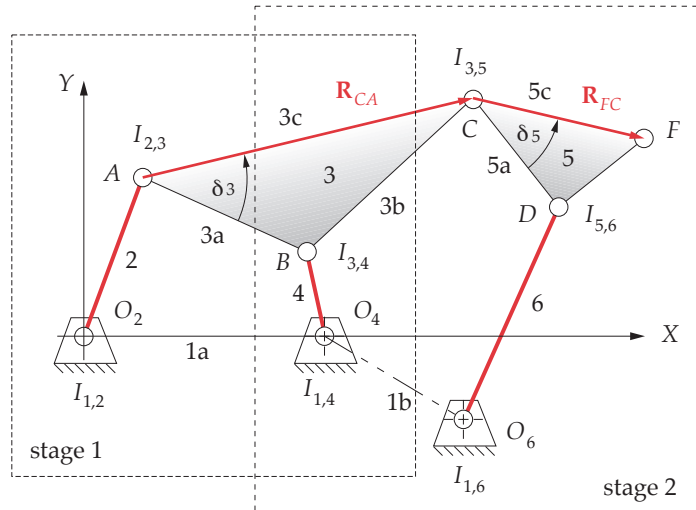

FIGURE A-13
The SIXBAR program is generally similar to the FOURBAR program. It will analyze the **Watt's II** and the **Stephenson's III** linkage isomers as defined in Figure 2-14 (p. 48). These are two of the five distinct sixbar isomers. The **Watt's II** mechanism is shown in Figure A-12 with the program's input parameters defined. The **Stephenson's III** mechanism is shown in Figure A-13 (p. 780) with its input parameters defined. Note that the program divides the sixbar into two stages of fourbar linkages. Stage 1 is the left half of the mechanism as shown in Figures A-12 and A-13. Stage 2 is the right half. The  $X$  axis of the global coordinate system is defined by instant centers  $I_{1,2}$  and  $I_{1,4}$  with its origin at  $I_{1,2}$ . The third fixed pivot  $I_{1,6}$  can be anywhere in the plane. Its coordinates must be supplied as input.
**STEPHENSON'S III LINKAGE** The stage 1 data for the Stephenson's linkage is similar to that of the Watt's linkage. The first stage's crank, first coupler, first rocker, and ground link segment from instant centers  $I_{1,2}$  to  $I_{1,4}$  correspond to links 2, 3a, 4, and 1a, respectively, in Figure A-13. The link lengths in stage 2 of the linkage are: second coupler and second rocker corresponding, respectively, to links 5a and 6 in Figure A-13.